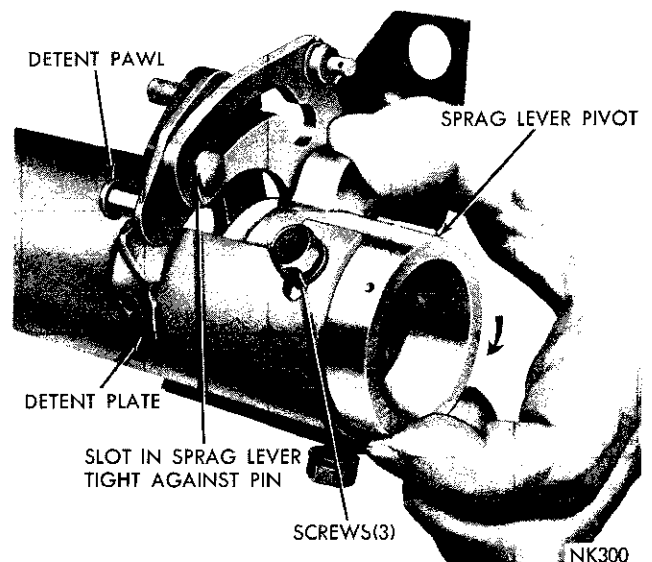

Fig. 14—Adjusting Sprag Lever and Detent Plate
(10) **The gearshift lever must be held firmly in the LOW position while adjusting the sprag lever, pivot and detent plate.** Adjust by rotating the sprag lever pivot clockwise until the slot in the sprag lever is tight against the pin (Fig. 14), then tighten the three pivot screws. Install the pawl spring, then adjust the detent plate to align the end detent with the pin on the detent pawl. Tighten the detent plate screws. Move the gearshift lever in and out of LOW several times and inspect the adjustment.